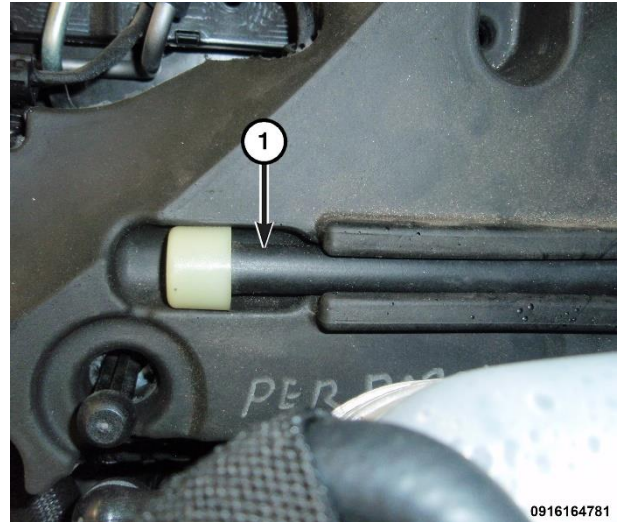

Figure 112 – Vent Hose
33. Remove the vent hose (1) from the left fuel rail cover (Figure 112).